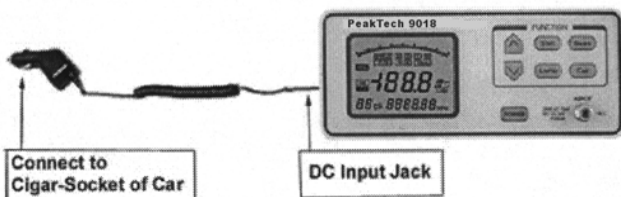

Fig 4-2 Charging by power from Cigar-Socket of car
6.2.2. Charging by power from Cigar-Socket of car (Figure 4-2)